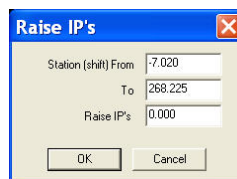

Figure 18-37. Raise a Design IP
1. Click **Profile ▶ Raise Design**. The *Raise IP's* dialog box appears (Figure 18-37).